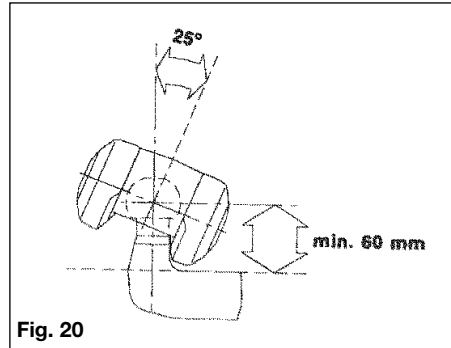

Fig. 20
2. Not suitable for use with overrun devices which can revolve above 25° (Fig. 20).
3. Swan Neck towbars (fixed or detachable) are suitable for use with the AKS 3004 providing they comply to EC Directive 94/20 and have the required minimum 60 mm clearance, measured from the centre of the towball (Fig. 20).